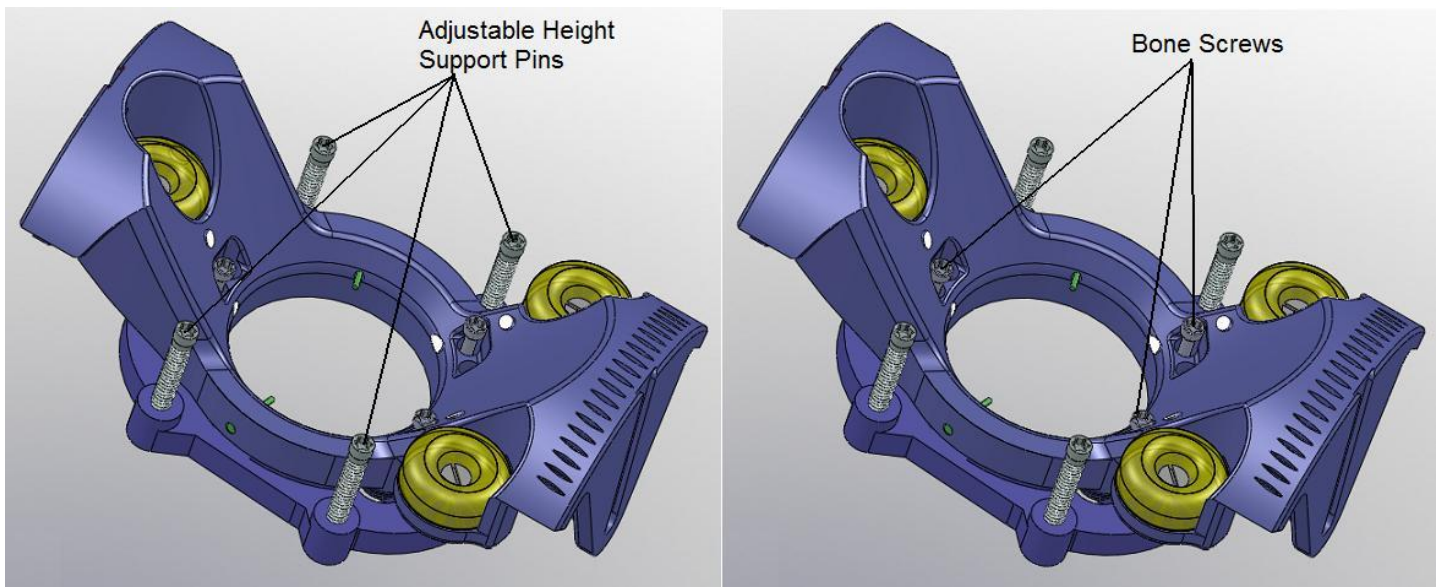
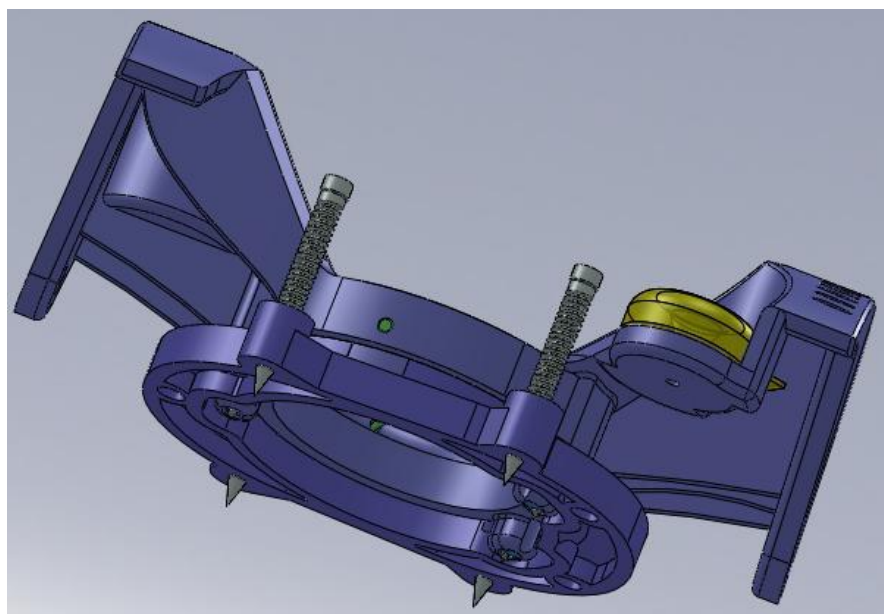

Figure 4
Figure 5
1. The Scalp Mount Base has four adjustable height support pins and three self-tapping bone screws, as shown in Figures 4. The support pins have sharp tips, as shown in Figure 5. They have small protective tubes covering them. Remove the tubes before proceeding.